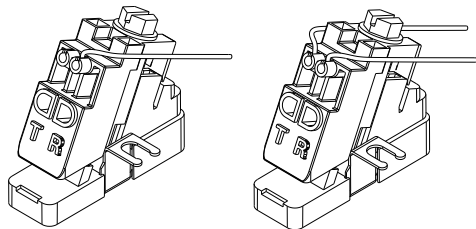

Figure 4
- Upper Port Subscriber Connections (See Figure 4)**
2d. Dress the wires through the strain relief slots to hold them in place (See Figure 4).